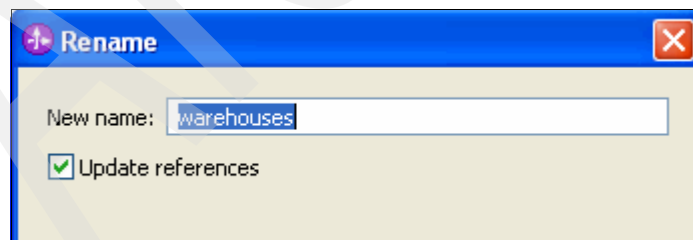

Figure 5-19 Rename the business object field
4. Then, click **OK** again on the Rename window (shown in Figure 5-19).